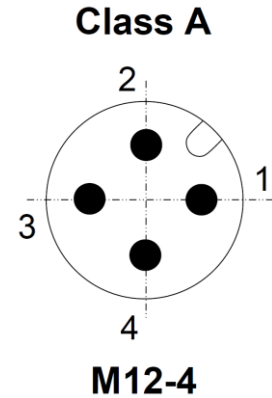

Figure 3. X1: Pin Numbering (Front View)
- Figure 3. X1: Pin Numbering (Front View)4
X1 is a male 4-pin M12-A-coded connector. It enables an easy connection between the RH4Z2501-PMOD and an IO-Link Master. IO-Link is a serial, bidirectional point-to-point connection for signal transmission and power supply to sensors and actuators. The RH4Z2501-PMOD features a 4 pin Class A device port with the pin assignment as in Figure 3 and Table 2. For usage of Pin 2, populate R6 with a 0 Ohm resistor.